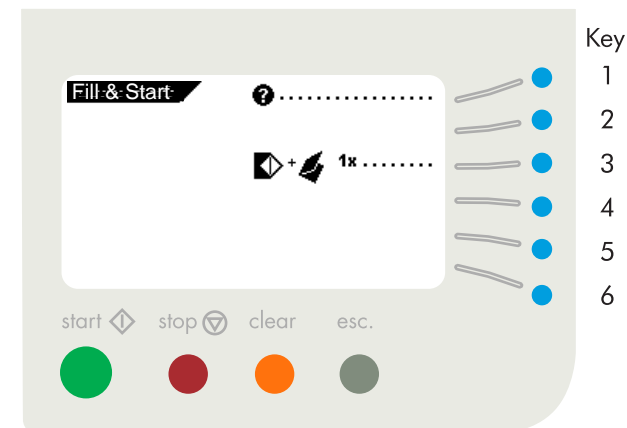

Fig. 25
After pressing key 5 in the "main menu (1)", the "Fill & Start™" menu is displayed (fig. 25).
Press key 3 to start a testset run (fig. 25). The machine prepares a job which is named "Fill & Start™".